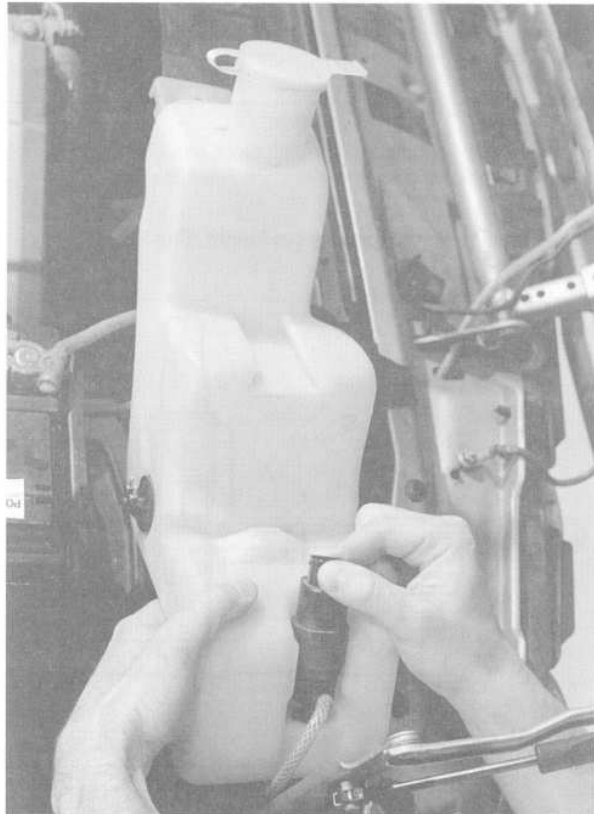

Fig. 22. Windshield washer pump being removed.
6. Pull pump out of tank. See Fig. 22.